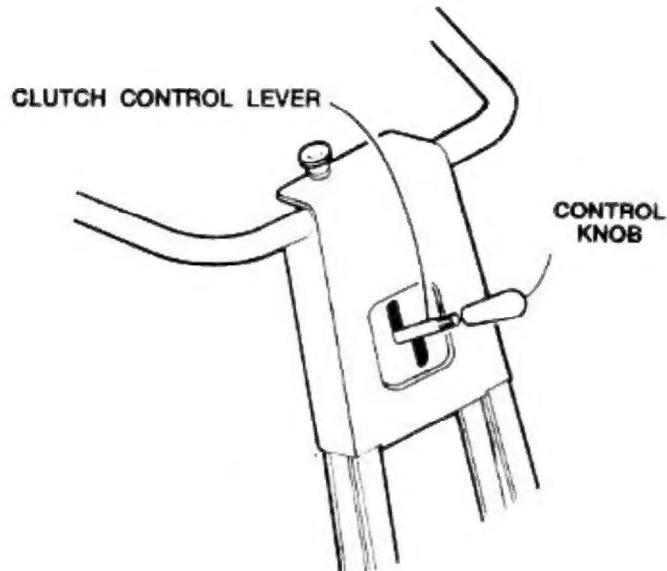

FIG. 7
8. Turn the control knob\* onto the the clutch control lever, Fig. 7.